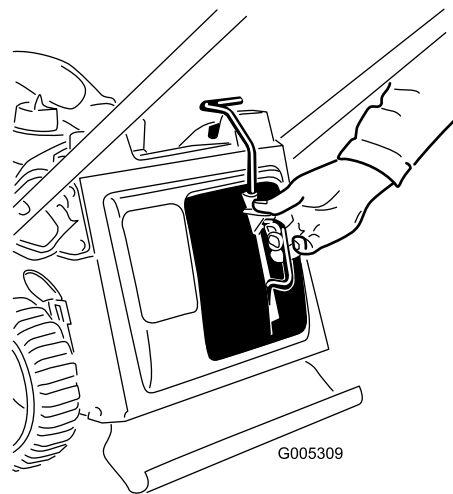
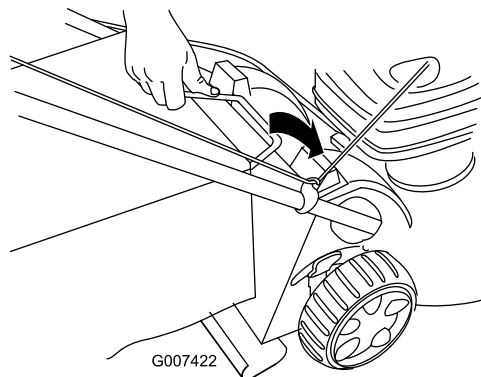

Figure 22
Figure 23
1. Install the mulch plug (Figure 22) or the grass bag (Figure 23) on the mower.